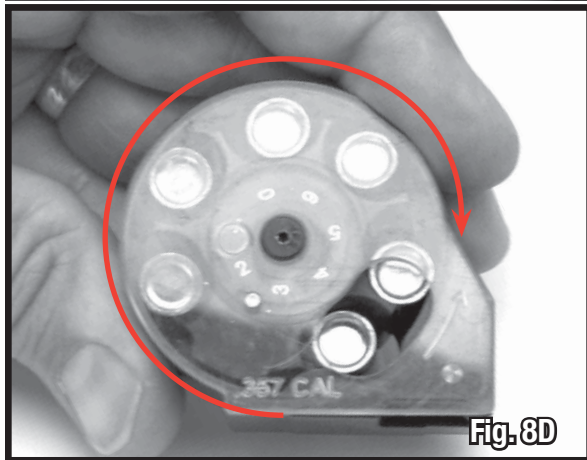

Fig. 8D
- After you fill the remaining slots in the clip, rotate the cover clockwise until it comes to rest at the catch point (Fig. 8D). The clip is now ready for use.